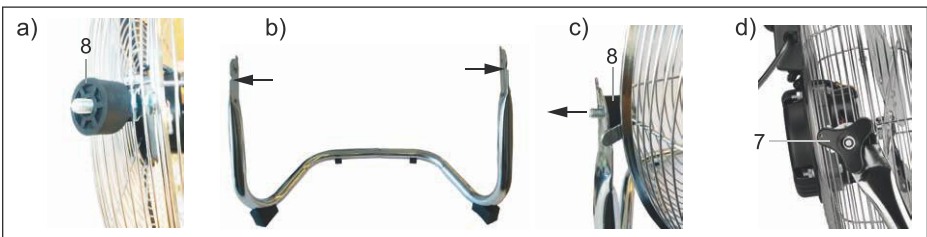

Fig.12: Hooking the protective net basket into the carrier
9. Slide one spacer (8) each onto the screw suspensions on the right and left of the protective grille of the fan, Fig. 12 a),
10. Push the fan with the screw suspensions and spacers into the carrier Fig. 12 b) and 12c).
11. Secure the basket with the triangular screws, Fig. 12 d).